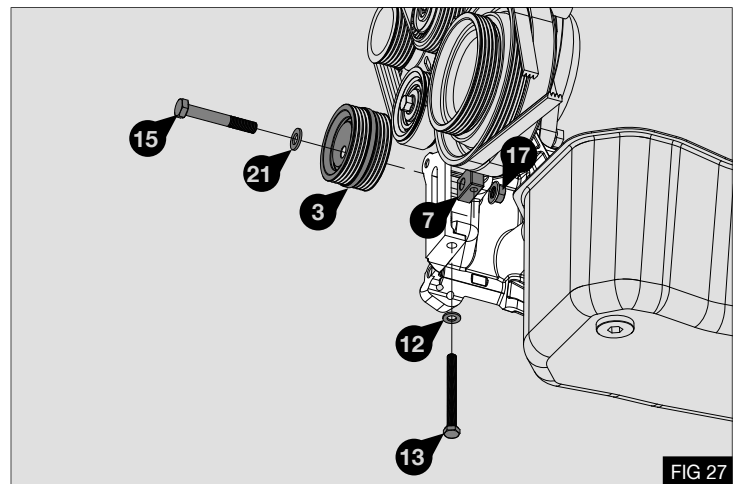

FIG 27
- Assemble tensioner pulley (3) onto mounting bracket (1) using block (7), M8x 80 bolt (13) with M8 washer (12), M10 x 70 bolt (15), M10 flat washer (21) and M10 flange nut (17). Do not tighten at this stage - Fig 27